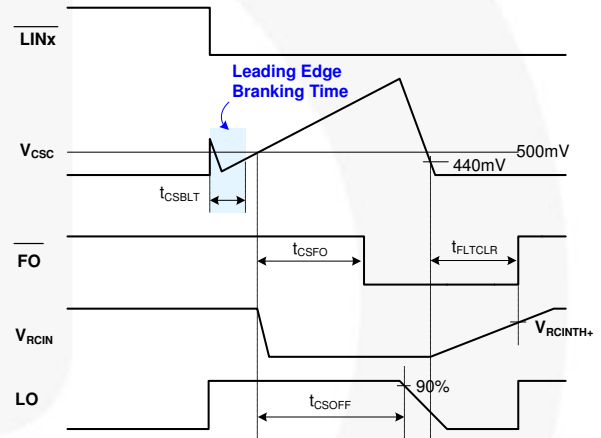

Figure 43. RCIN and Fault-Clear Waveform Definition
Figure 43 shows the waveform definitions of RCIN, FO, and the low-side driver; which uses a soft turn-off method when an under-voltage condition of the low-side gate driver supply voltage (V_{DD}) or the current-sense pin (CS) recognizes a fault. If a fault condition occurs, the FO Pin is internally pulled to COM and all outputs (HO1,2,3 and LO1,2,3) of the gate driver are turned off. Low-side outputs decline linearly by the internal sink current source ($I_{SOFT}=40\ mA$) for soft turn-off, as shown in Figure 43.